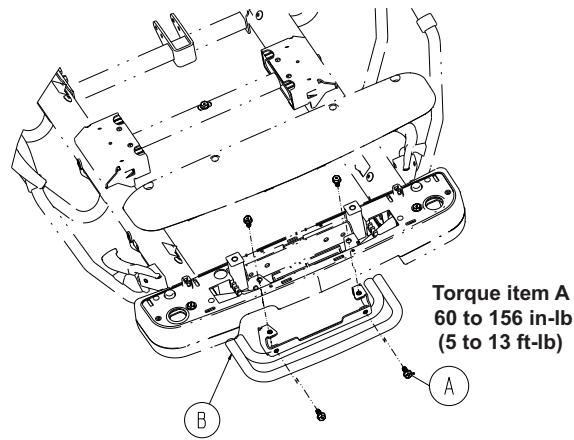

Figure 50 – Pump bar option
11. Lift up on the mid cover (T) to remove the mid cover from the litter frame. Save the mid cover.
12. For products with a pump bar option, use a ratchet and a 1/2" socket to remove the four screws (A) that secure the pump bar (B) to the litter frame (Figure 50). Save the screws and pump bar.